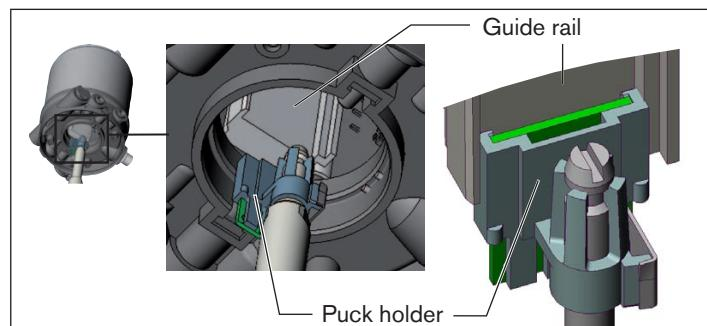

Fig. 4: Aligning the puck holder
1. the puck holder can be inserted into the guide rail of the positioner (see "Fig. 4") and